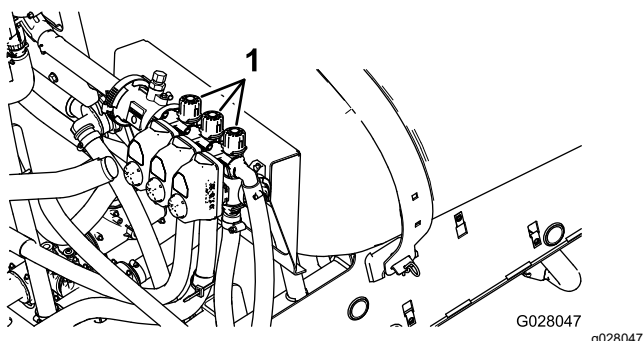

Figure 21
- Turn off the left section and adjust the section-bypass knob (Figure 21) until the pressure reading is at the previously adjusted level (typically 2.75 bar or 40 psi).
- Adjust the right section-bypass knob (Figure 21) until the pressure reading is at the previously adjusted level (typically 2.75 bar or 40 psi).
- Adjust the center section-bypass knob (Figure 21) until the pressure reading is at the previously adjusted level (typically 2.75 bar or 40 psi).